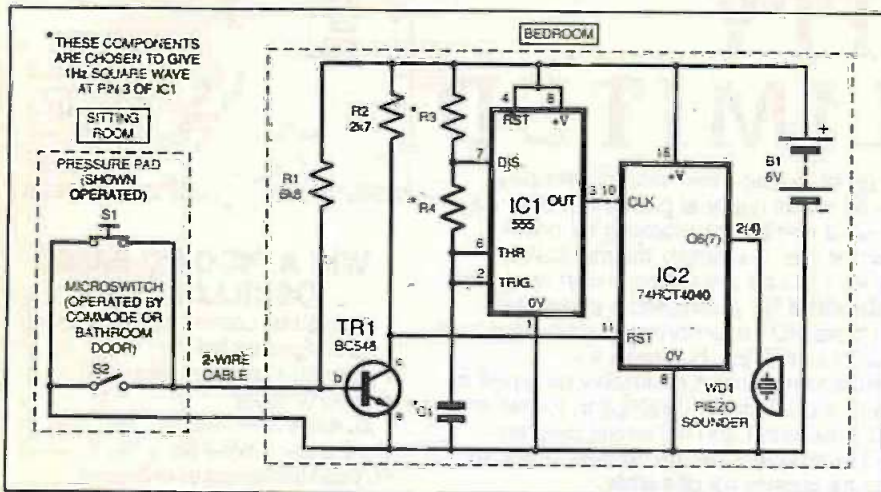

Fig.2. Circuit diagram for an Elderly Person Monitor.
**A**N ELDERLY relative who resides with us occasionally falls accidentally, and has laid there for some time in a distressed state without being able to summon help. Consequently, a simple independent alarm was designed and the resulting circuit is shown in Fig.2.